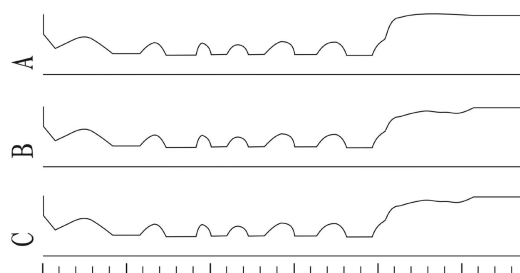

Figure6.14
1. Possible waveform arising from CPU board failure (see figure 6.14)